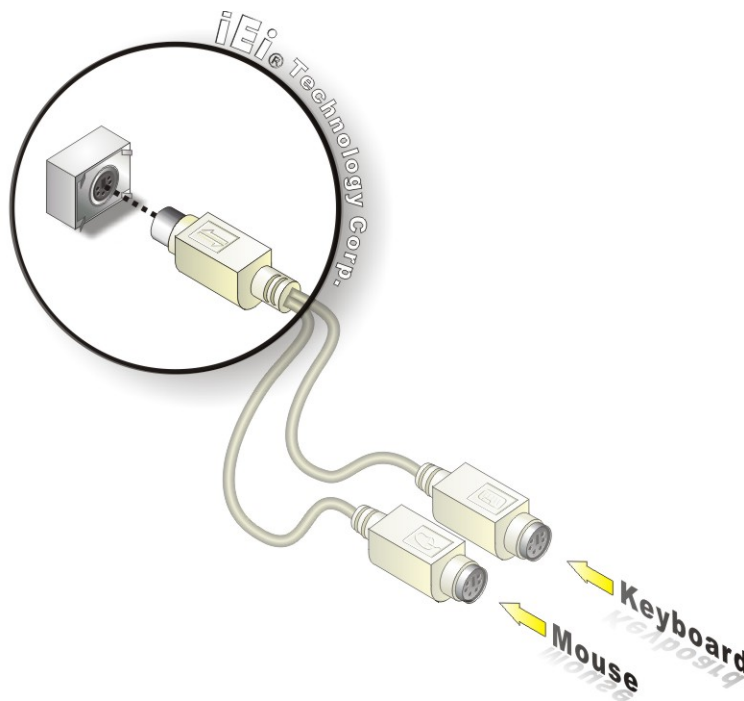

Figure 4-24: PS/2 Keyboard/Mouse Connector
Step 2: Insert the keyboard/mouse connector. Insert the PS/2 connector on the end of the PS/2 y-cable into the external PS/2 connector. See **Figure 4-24**.